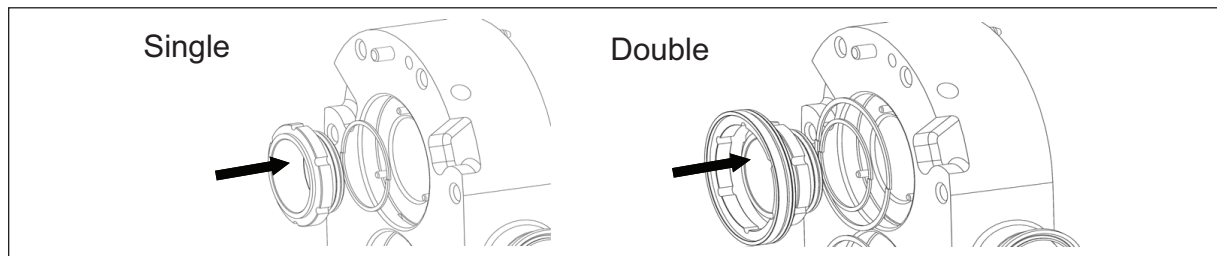

Figure 52. Installing Single/Double Stationary Seals
2. Apply a light film of lubricant to NEW inner stationary o-rings and install them on the inner stationary seals. Place the inner wave spring into the body and install the inner stationary seal into the seal groove (*Figure 52*). Make sure the seal stop pins are aligned with the notches on the inner stationary seal. For double seals, apply a light film
of lubricant to NEW outer stationary o-rings and install them on the outer stationary seals. Place the outer wave spring into the body and install the outer stationary seal in the seal groove (*Figure 52*). Check that the seal stop pins are aligned with the notches on the outer stationary seal.